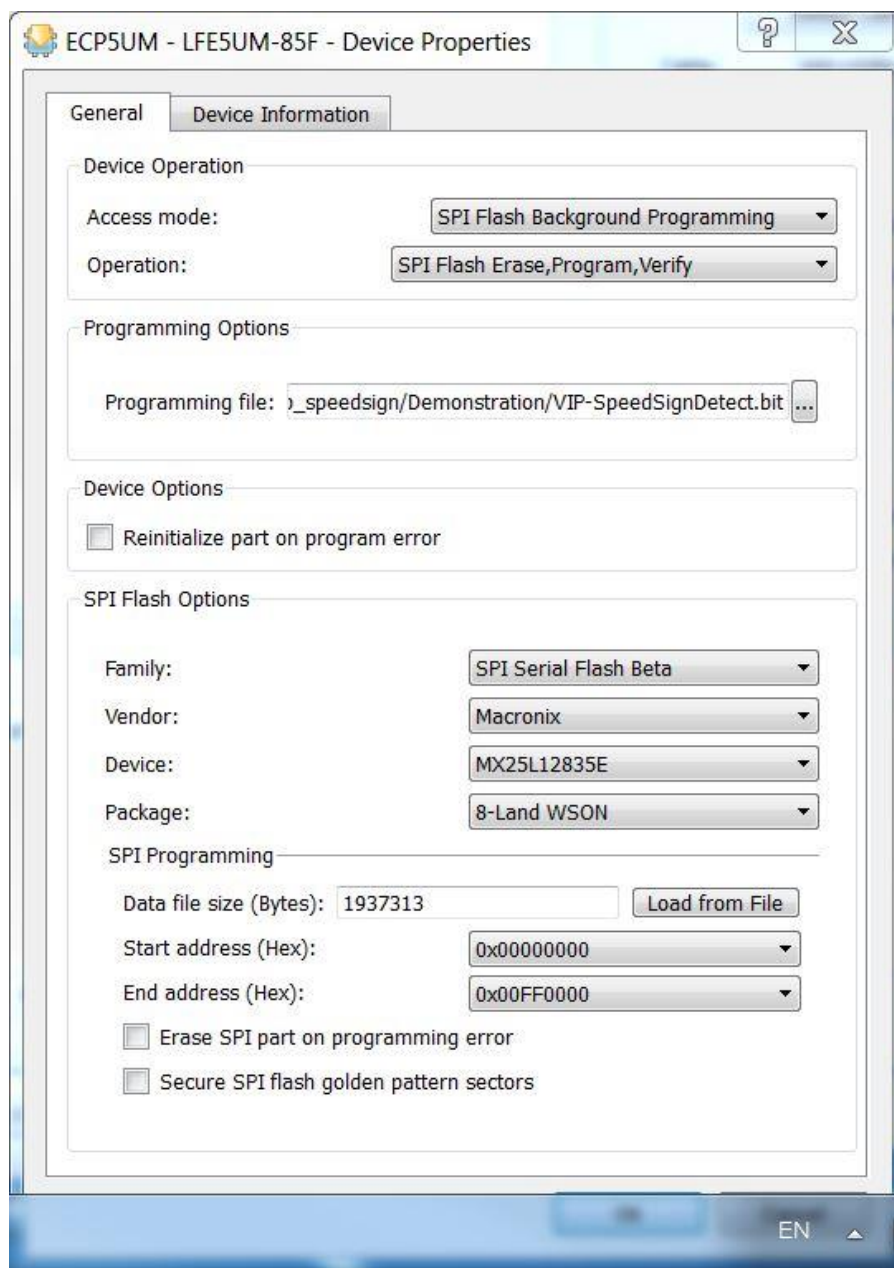

Figure 4.3. Selecting General Options
2. In the Diamond Programmer main interface, click the ECP5 row and select **Edit > Device Properties** to open the **Device Properties** dialog box as shown in Figure 4.3.